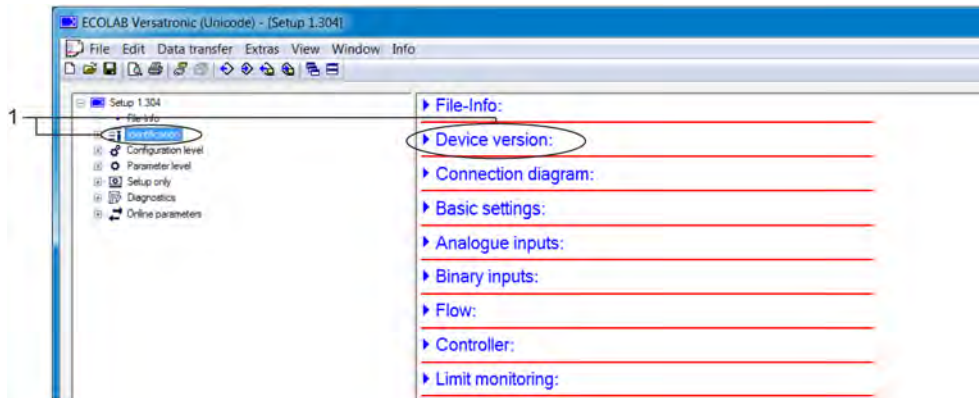

Fig. 98: Device version
3. On the 'Versatronic' Setup Program, call the menu item "Device version" by double-clicking. (See Fig. 98 .)